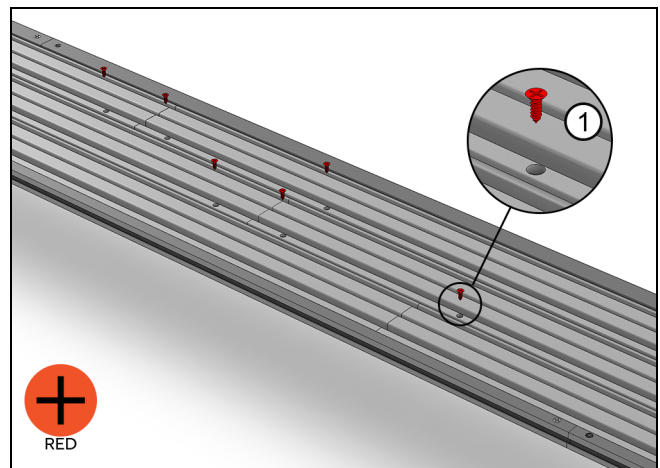

Figure 24
10. Once all screws are secured, flip the sill right side up. See Figure 24.